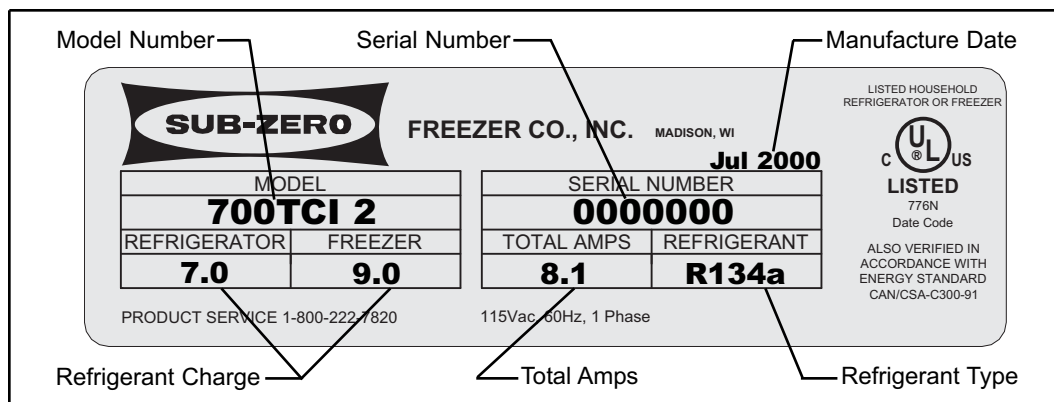

Figure 1-1. Serial Tag Layout
- The serial number tag is located on the left side wall of the upper drawer compartment. (See Figures 1-1, for serial tag layout)